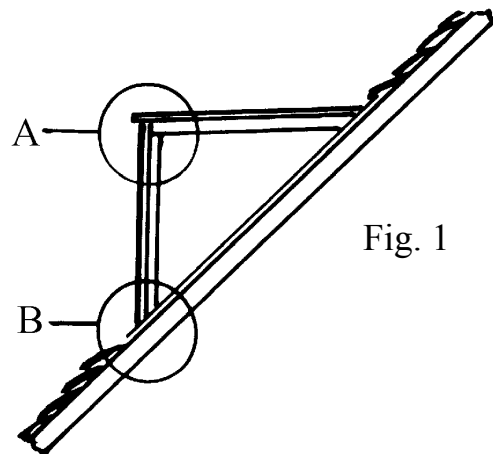

Fig. 1
2. Figure 1 shows the outline of a dormer window which is to be constructed in an existing roof of 45° pitch.